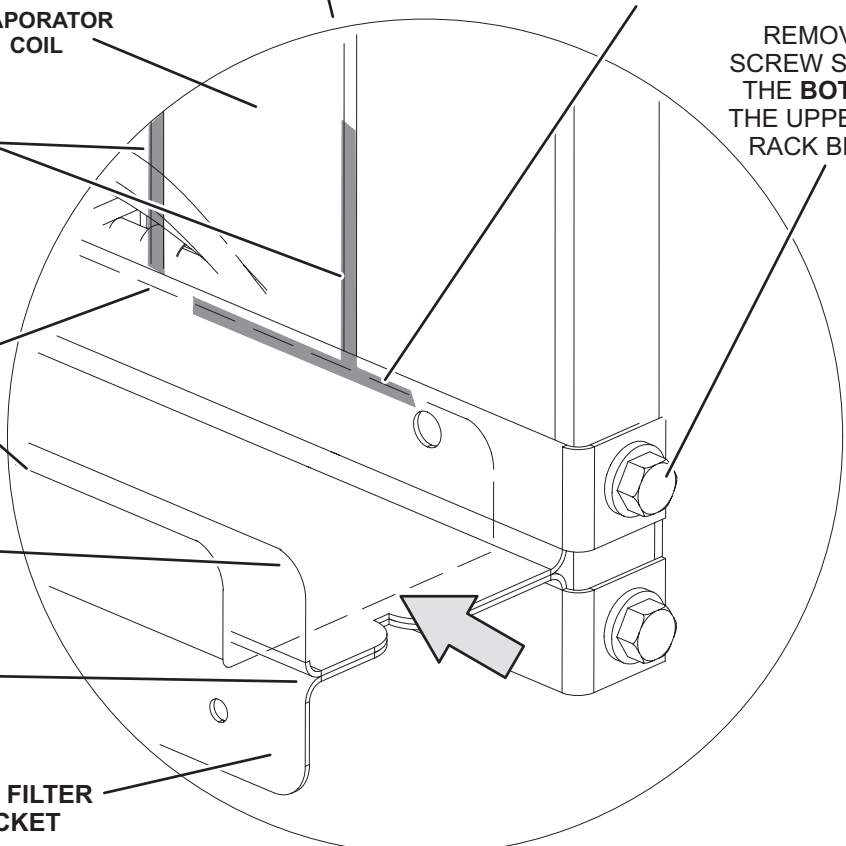

FIGURE 52
The optional, brush-type ionizer produces positive and negative ions to clean air and reduce airborne contaminants. The ionizer was designed to be low maintenance. The device should be checked semi-annually to confirm the brushes are clean for maximum output. The ionizer is located behind the filters. See FIGURE 52.
- 1 - Remove filters, screws securing the top and bottom of the upper filter bracket, and the wire ties the screws hold in place. See FIGURE 52.